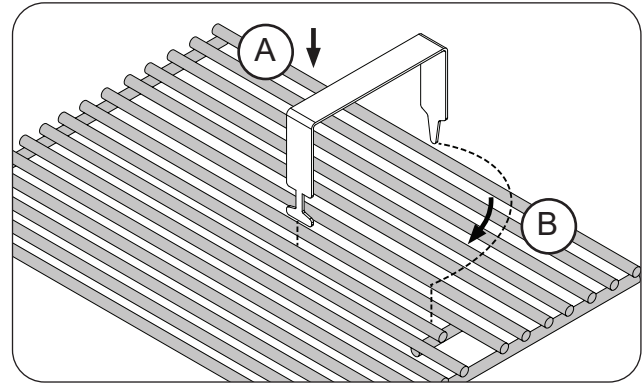
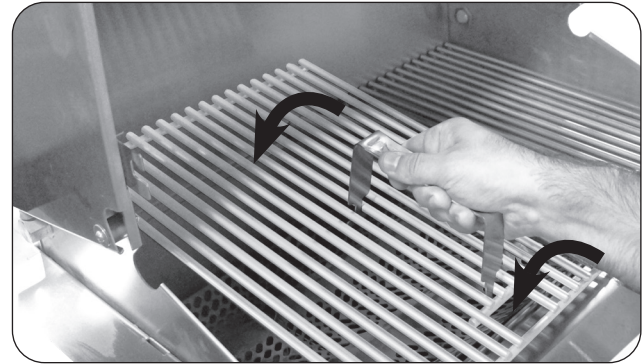

Fig. 28-1 Install cooking grids
Fig. 28-2 Install cooking grids
1. With the prongs facing downward, insert the notched-end of the lifter between two grid rods, then rotate, as shown in Fig. 28-1, A & B.
2. Insert the rear pointed-end of the lifter between the same two rods (Fig. 28-1, B) and carefully lift the cooking grid and place onto the front and rear grid rests of the grill (see Fig. 28-2). Repeat for all other cooking grids.